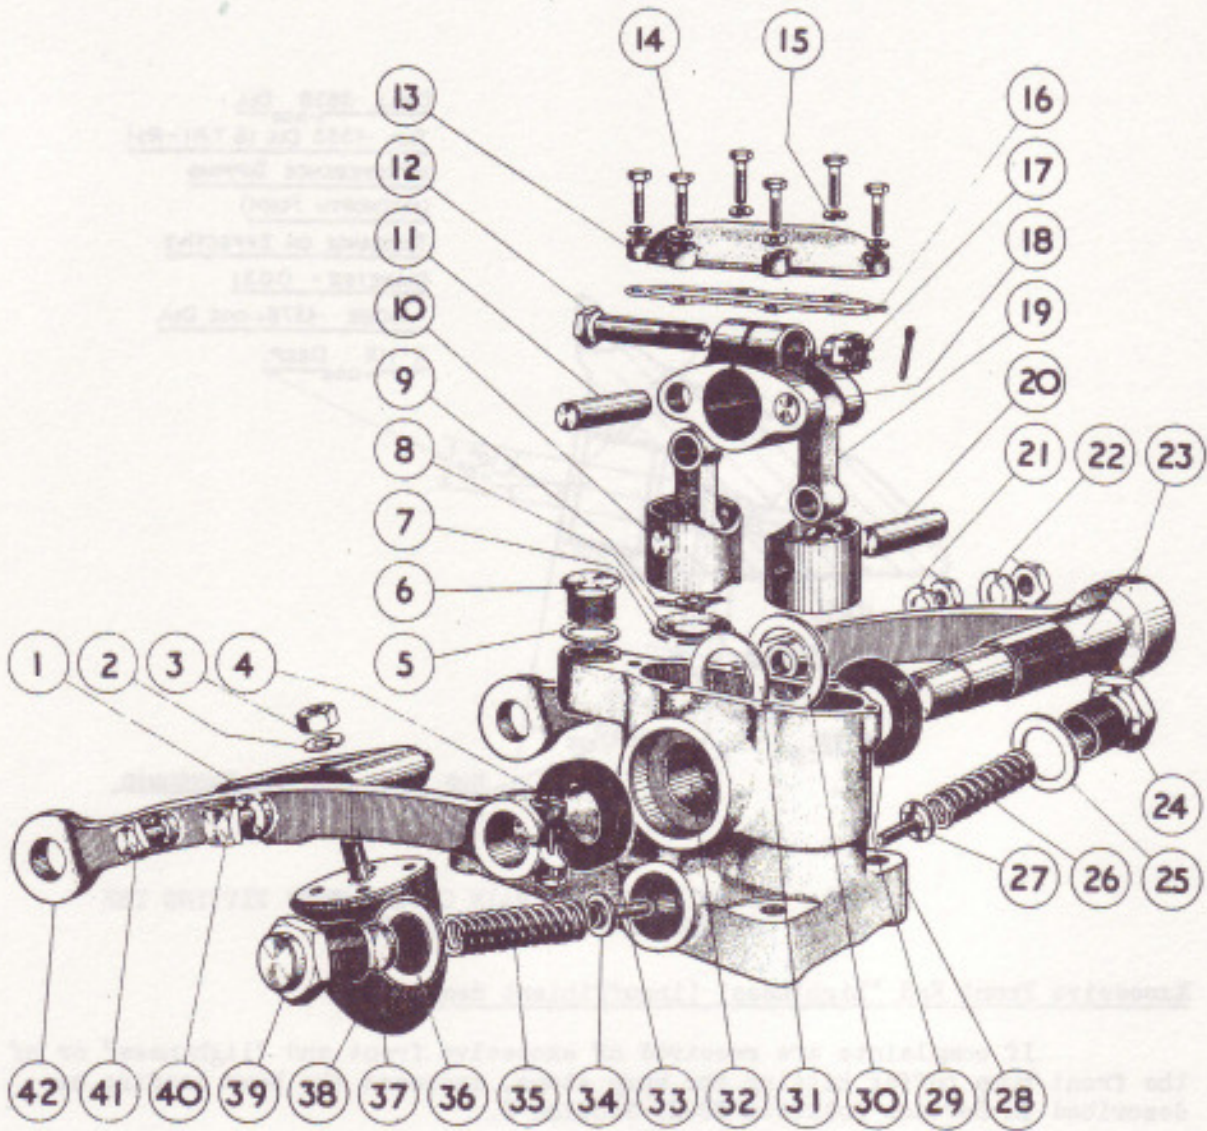

FIG. 2. "EXPLODED" VIEW OF FRONT SHOCK DAMPER.
- (a) Before attempting to remove the filling plug, (6, Fig.2) both the plug and the shock damper casing adjacent to it must be cleaned very carefully with a brush dipped in paraffin, in order to avoid the possibility of dirt entering the hole when the plug is removed.
Oil leaks have been known to occur from the front shock damper glands (29 and 33, Fig.2) after long periods of service, inspection of the leaking glands will probably reveal that the canvas lining has worn through. The remedy is to fit new rubber glands.
An oil leak from under a valve cap (24 and 39, Fig.2) will probably be due to insufficient tightening of the cap. When tightening, a box-spanner should always be used. A damaged aluminium washer under a valve cap will also cause an oil leak.
On early chassis, dampers were fitted in which the valve springs (26 and 35, Fig.2) were ground square at each end. With this type of damper, valve noise troubles have been experienced, the noise being a squawking sound, and is due to the rapid vibration of a bump or rebound valve.
This is a very unlikely source of trouble, and is caused by mechanical lost-motion due to wear of the piston links and pins (11, 19 and 20, Fig.2) after considerable mileage has been covered. The remedy is to fit new links and pins as necessary.
(ii) Remove the top cover (13, Fig.2) and the joint washer.
- (ii) If the pistons, or, the connecting links have been removed from the rocker for any reason, they should be re-assembled so that the cut-away sides of the pistons are facing each other as shown in Fig.2.
- (iii) If the replenishing valve (9) has been removed from the pistons then replace the valve, the dished plate (8) and the spring ring (7) to retain.
- (iv) Place the rocker assembly the correct way round in the casing as indicated by the centre punch marks, fit the bearing washers (30 and 31) each side of the rocker, the washer with the larger hole in it should be fitted near the lever (23).
- (v) Place the large gland rubber (29) over the shaft and against the lever (new gland rubbers should be fitted if the existing ones are not in good condition), and then fit the lever and shaft assembly to the casing as follows:-
- (b) Enter the shaft part way into the casing. Line up the centre scribed line on the lever with the one on the casing and also with the centre of the gap in the rocker and then tap the shaft about half way into the casing until the splines of the shaft have engaged with those of the rocker for about half their length. Press the gland rubber (29) into position in the casing and then tap the shaft fully home.
- (c) Now check that the shaft is in the original position in relation to the rocker by moving the lever to its extreme positions and noting whether the outer scribed lines on the lever line up with the scribed line on the casing. Fit the pinch-bolt (12) to the
rocker, (with bolt head facing outer end of damper as shown in Fig.2) tighten up the nut and secure with a new split pin.